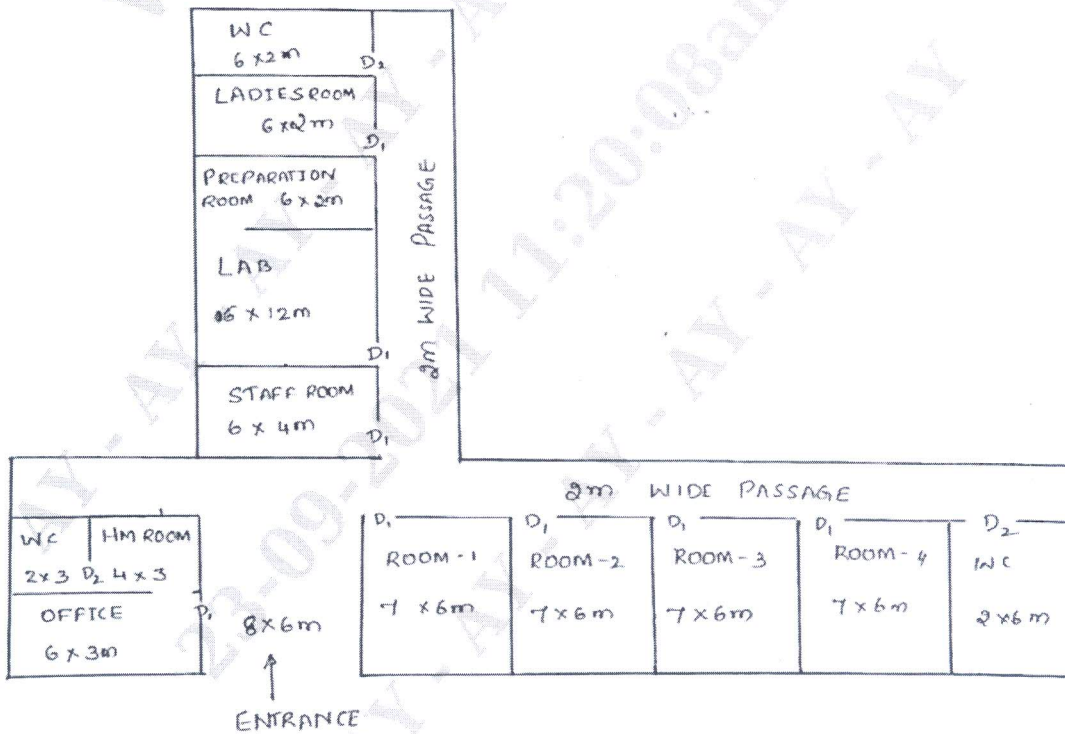

Fig. Q6
- Q6 Line diagram of School building is given in figure Q6. Draw to scale the following: